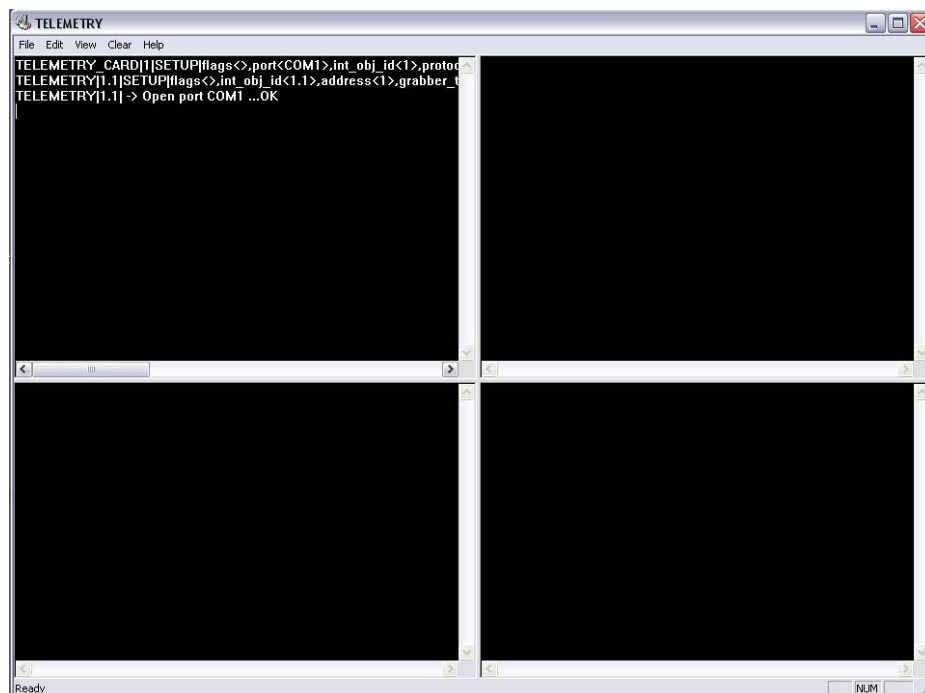

Figure 3.4-15 Telemetry module debug window
6. As a result the telemetry module debug window is displayed (Figure 3.4-15).